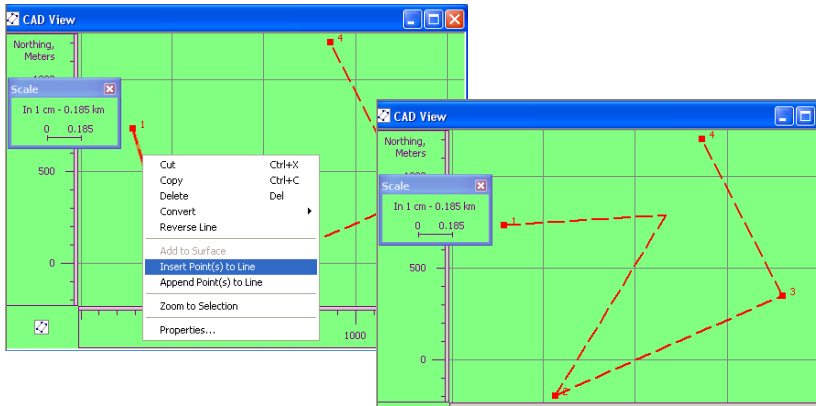

Figure 5-43. Example of Inserting Points to the Line
- Right-click on an existing point in the CAD View and click **Insert Points to Line** on the pop-up menu (Figure 5-43 on page 5-35).
The CAD View and the *Lines* tab display new line segments from the start point of the selected segment to this point, and from this point to the end point of the selected segment (Figure 5-43).